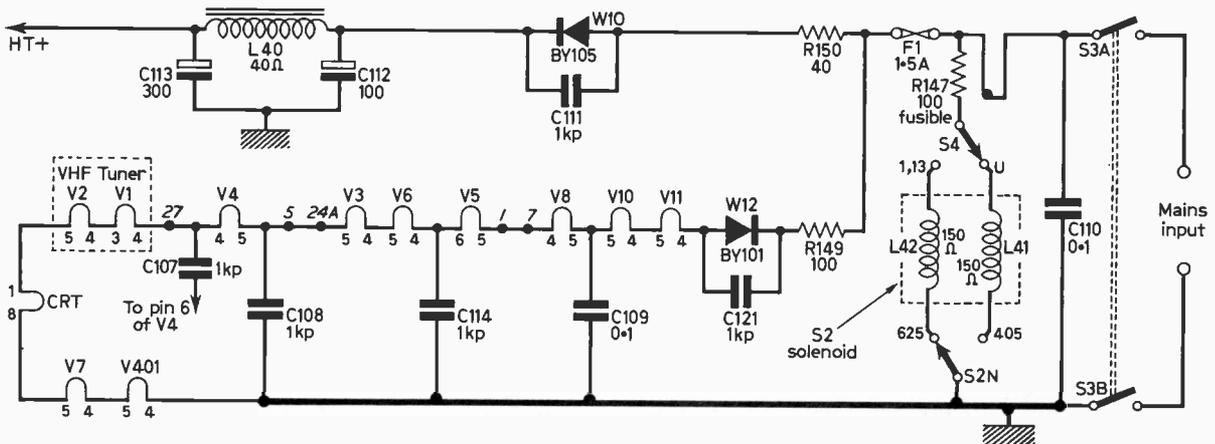

Fig. 3: Power supply circuit used in later versions of the 960 chassis.
Fig. 3 shows a second power supply circuit used in the portable models. This uses the more commonly found combination of two separate silicon diodes, one feeding the h.t. circuitry and the other the heater chain. As before, the h.t. rectifier is W10, with reservoir capacitor C112. The smoothing choke L40
The use of a silicon diode to supply valve heater current is common practice in order to reduce heat and power consumption. Since the diode conducts on alternate half cycles it effectively lowers the voltage available for the heater chain, there being no reservoir capacitor to fill in the troughs. Thus a much lower value dropper resistor can be used: in Fig. 3 the 100Ω resistor R149 combines the functions of dropper and surge limiter. Since the resultant heater supply is pulsed d.c. a true voltage reading cannot be obtained using a moving-coil meter. The voltage across the 6V c.r.t. heater in Fig. 3 will show as 4V on an Avo Model 8. The reading obtained at the negative end (anode) of W12 should be -90V though addition of the individual heater voltages comes to 139.2V.
Connecting a meter across the mains plug of the standard 950 chassis will result in a low-resistance reading because of the autotransformer. Checking across the plug in a set fitted with the circuit shown in Fig. 3 however should give a low reading in one direction and a high reading in the other depending on the meter and rectifier polarities: typical figures are 1.2kΩ and 20kΩ.
A.F.C. is vital, but many surplus i.f. strips do not have this facility. It can be easily added as Fig. 3 shows. The circuit consists of a limiting amplifier plus discriminator working at i.f. and thus radiates some i.f. harmonics. So don't mount it on the same board as the tuner, otherwise these harmonics will get into the aerial input and cause patterning. Mount it close to the i.f. amplifier stage to which it is connected.
Fig. 3: A.F.C. circuit. The secondary winding consists of 12 turns of 42 s.w.g. wire, bifilar wound with one wire diameter spacing. The primary winding consists of 7 turns of 38 s.w.g. wire wound as a single layer 4.5mm. above the secondary. Use a Neosid 722/4 former and two Neosid 6/900 cores.